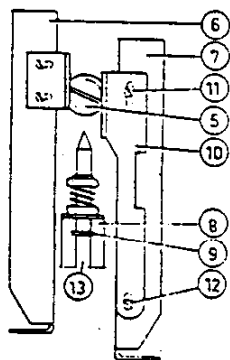

Fig. V-10. Adjusting the push-button unit
D. PUSH-BUTTON UNIT (see Fig. V-10)